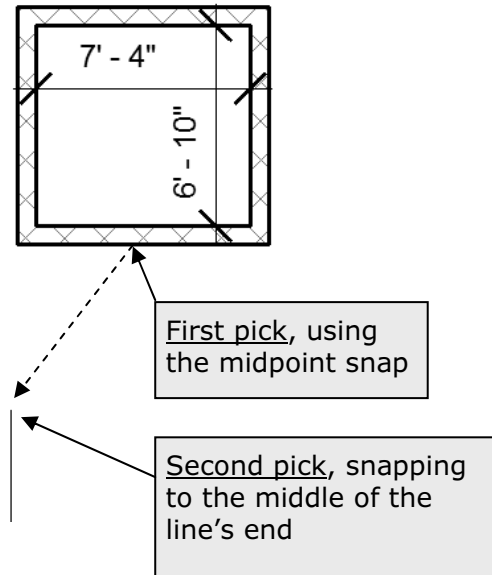

Figure 3-3.4 Move elevator shaft into place
15. Snap to the *Midpoint* of the shaft as your first point, and then snap to the *Middle Endpoint* of your temporary detail line (Figure 3-3.4). You should zoom in to verify your snaps. Do not draw the dimensions; they are for reference only.